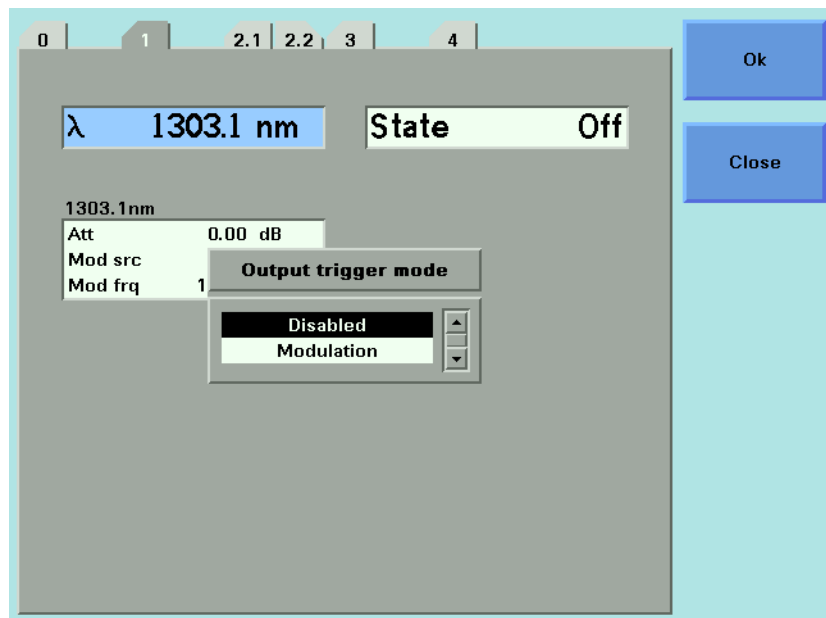

Figure 76 Output Trigger Mode
- 3 Move to <Output Trigger Mode>, by using the cursor key, and press *Enter*. You will see the screen in Figure 76 on page -130.